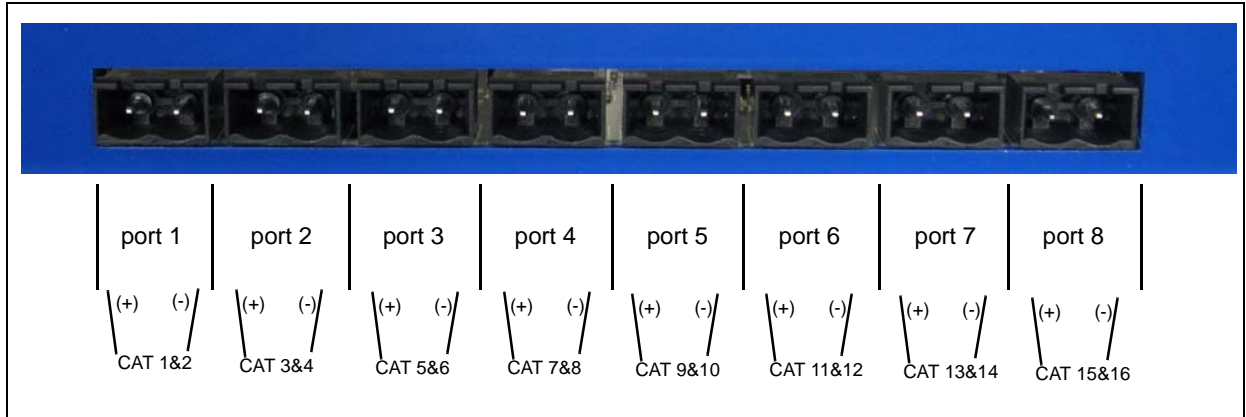
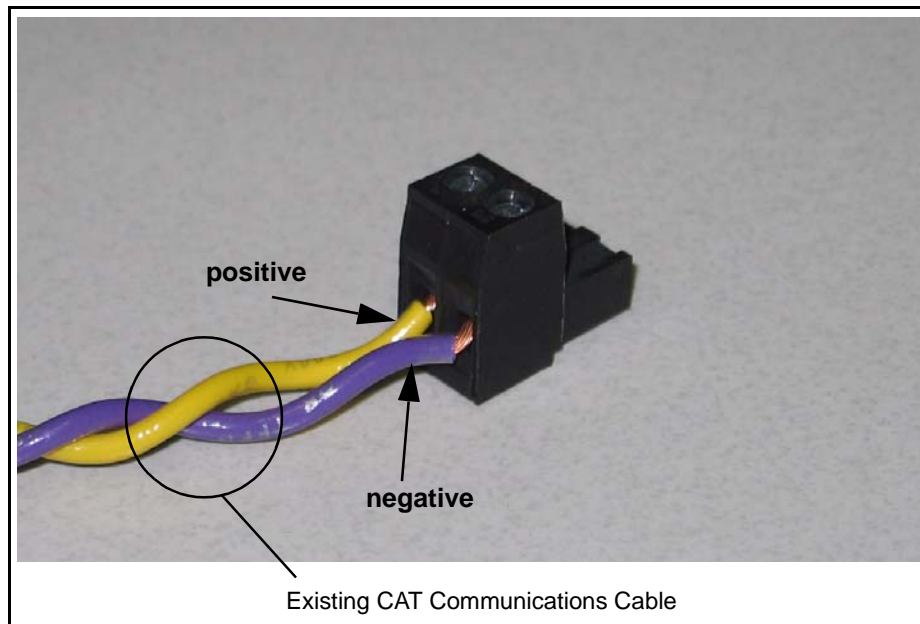

Figure 5 FusionNet Ports
Figure 6 FusionNet Plug
3. Connect each CAT data wire to a FusionNet plug and connect to the FusionNet ports beginning with Dispenser #1. CAT data wires can be connected as 2 fueling points per plug. See Figure 5 and Figure 6.